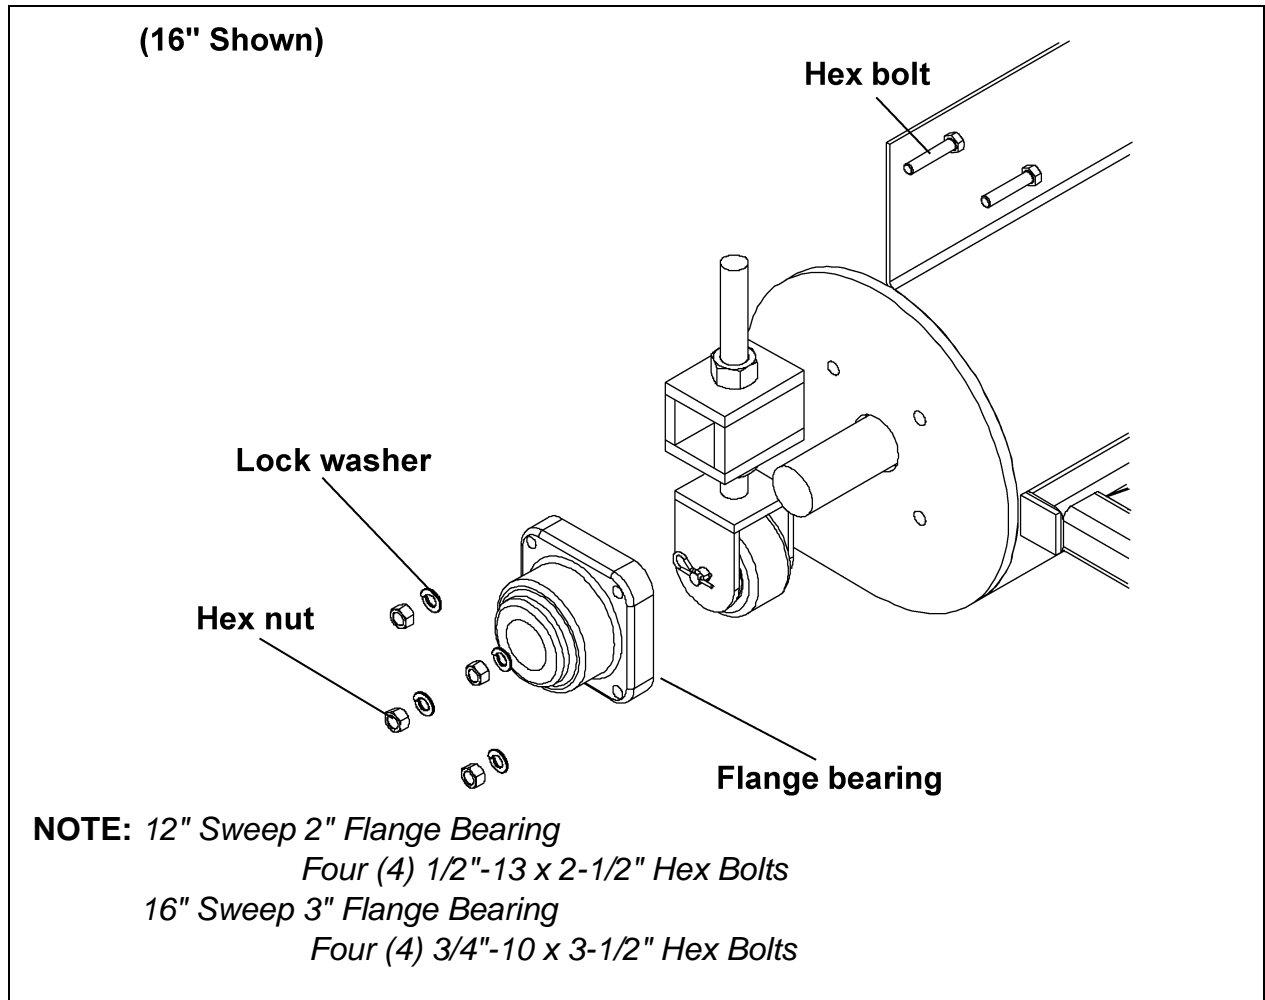

Figure 50
- A. Slide the flange bearing onto the end stub and bolt it to the end plate using hex bolts, lock washers and hex nuts as shown in Figure 50.